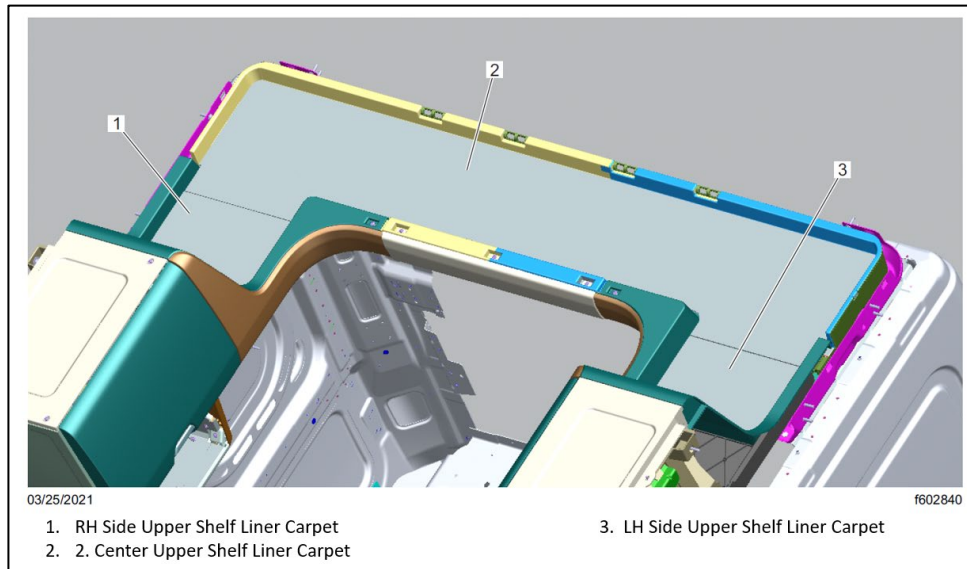

Fig. 37, Rear Upper Shelf Carpet
18. Install the center and RH side rear upper shelf carpet. See Fig. 37.